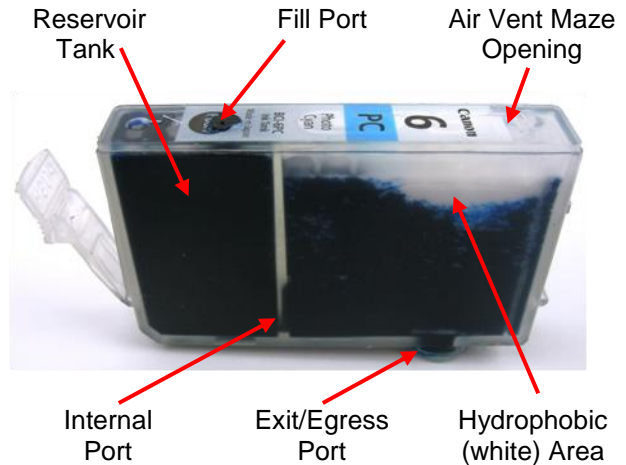

Figure 1
3. If you are replacing the OEM label with a “Remanufactured” Label then use a heat gun, or equivalent to help loosen the adhesive, and pull to remove the label. If not, use a razor blade to cut away the label above the Fill Port. Figure 1 and 2
Note: When a cartridge is filled correctly it will maintain the hydrophobic (white) area at the top of the sponge (see Figure 1). This will assist in the proper function of the cartridge once installed in the printer.
13. Seal the Air Vent Maze Opening using Red “Pull” Label (#4753). See Figure 1 and 11 (green arrow). **Caution:** You must cover the entire opening with a little overlap. Also, press to fit the label to all uneven surfaces.